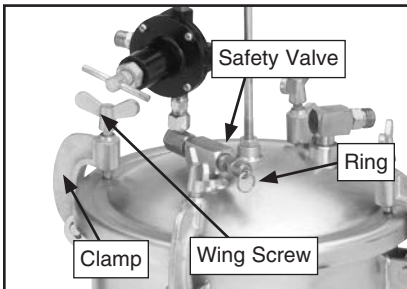

Figure 10. Safety valve ring.
2. Bleed out all tank pressure by pulling the ring on the safety valve (**Figure 10**) until air stops hissing out.
4. Loosen the wing screws on the tank lid (**Figure 10**), tip the clamps back, and tip the tank lid to one side.